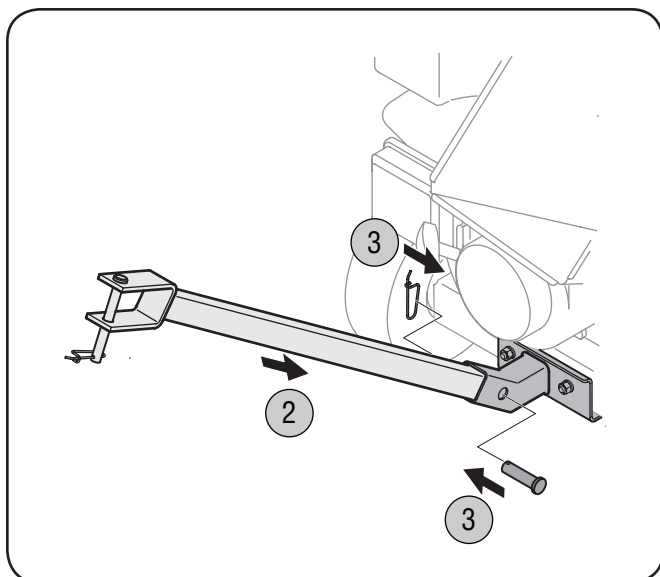

Figure 3-4
3. Reinsert the clevis pin through aligning holes in both the tongue and the base. Fasten with the spring pin to secure. See Fig. 3-4.